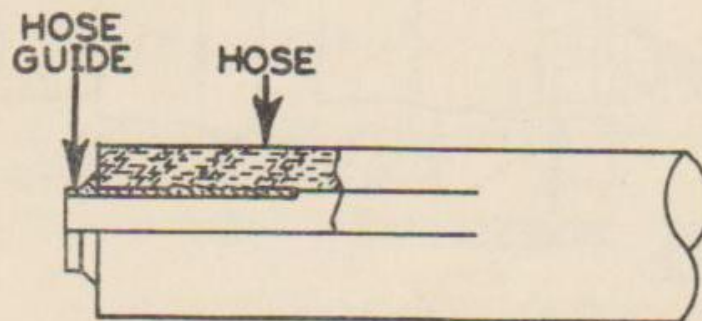

FIGURE 110
(3) Insert hose guide inside the hose until hose is against the shoulder (Figure 110).